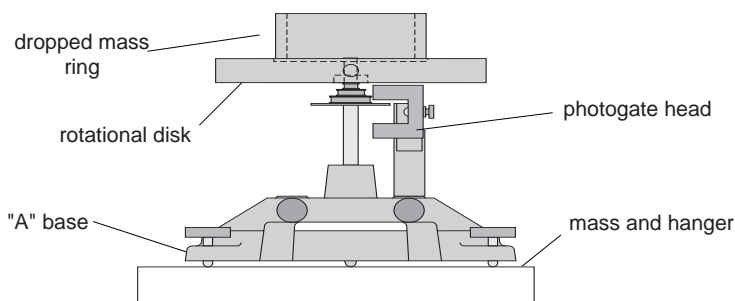

Figure 7.2: Experiment Setup
- ① Select <M>-Motion Timer <RETURN>.
- ② Hold the ring just above the center of the disk. Give the disk a spin using your hand. After about 25 data points have been taken, drop the ring onto the spinning disk See Figure 7.2.